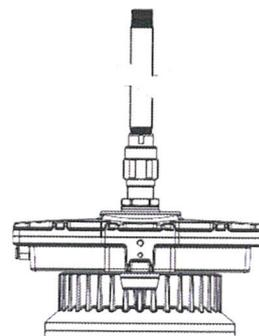

Figure 3
- ☞ The mounting type is for the use of straight electrical tube mounting (Figure 3).